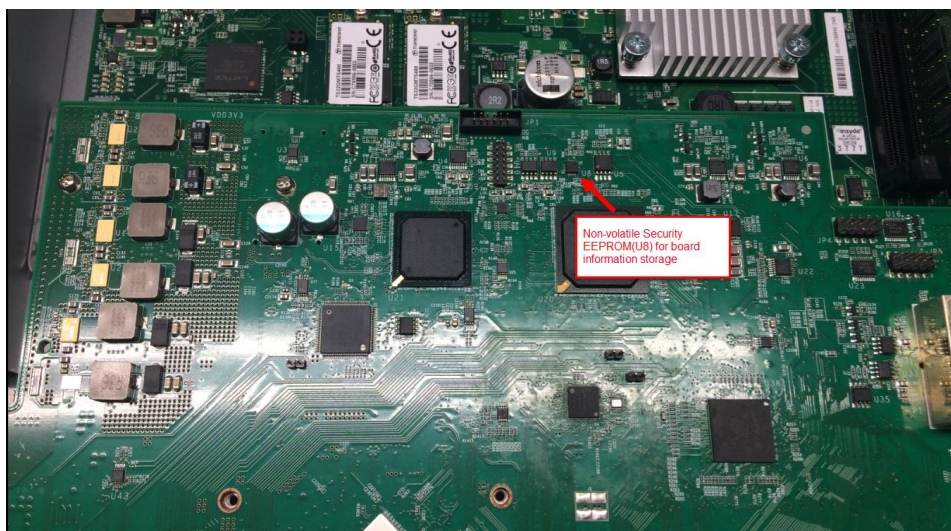

Figure 3-5: Locate NV storage devices on Main board
7. Locate NV storage devices on Main board (Figure 3-5).